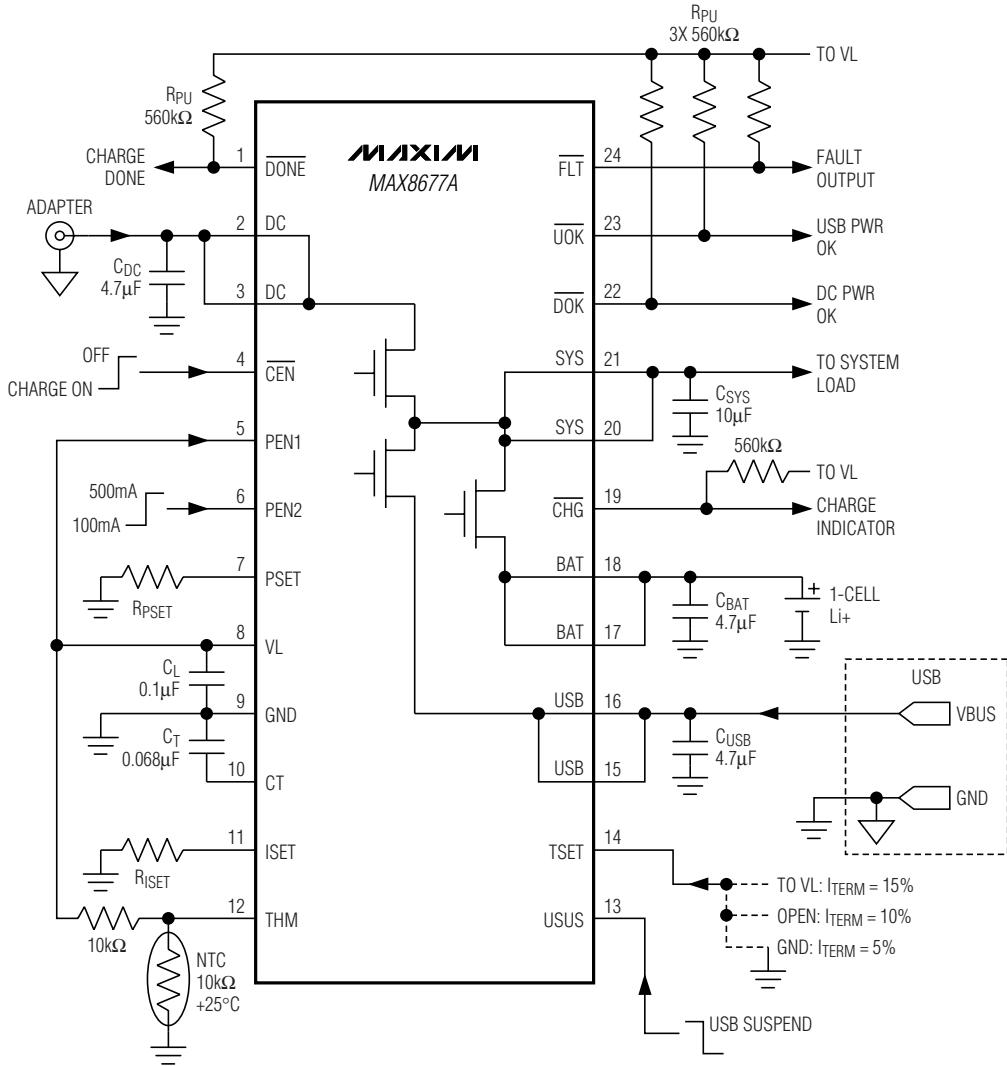
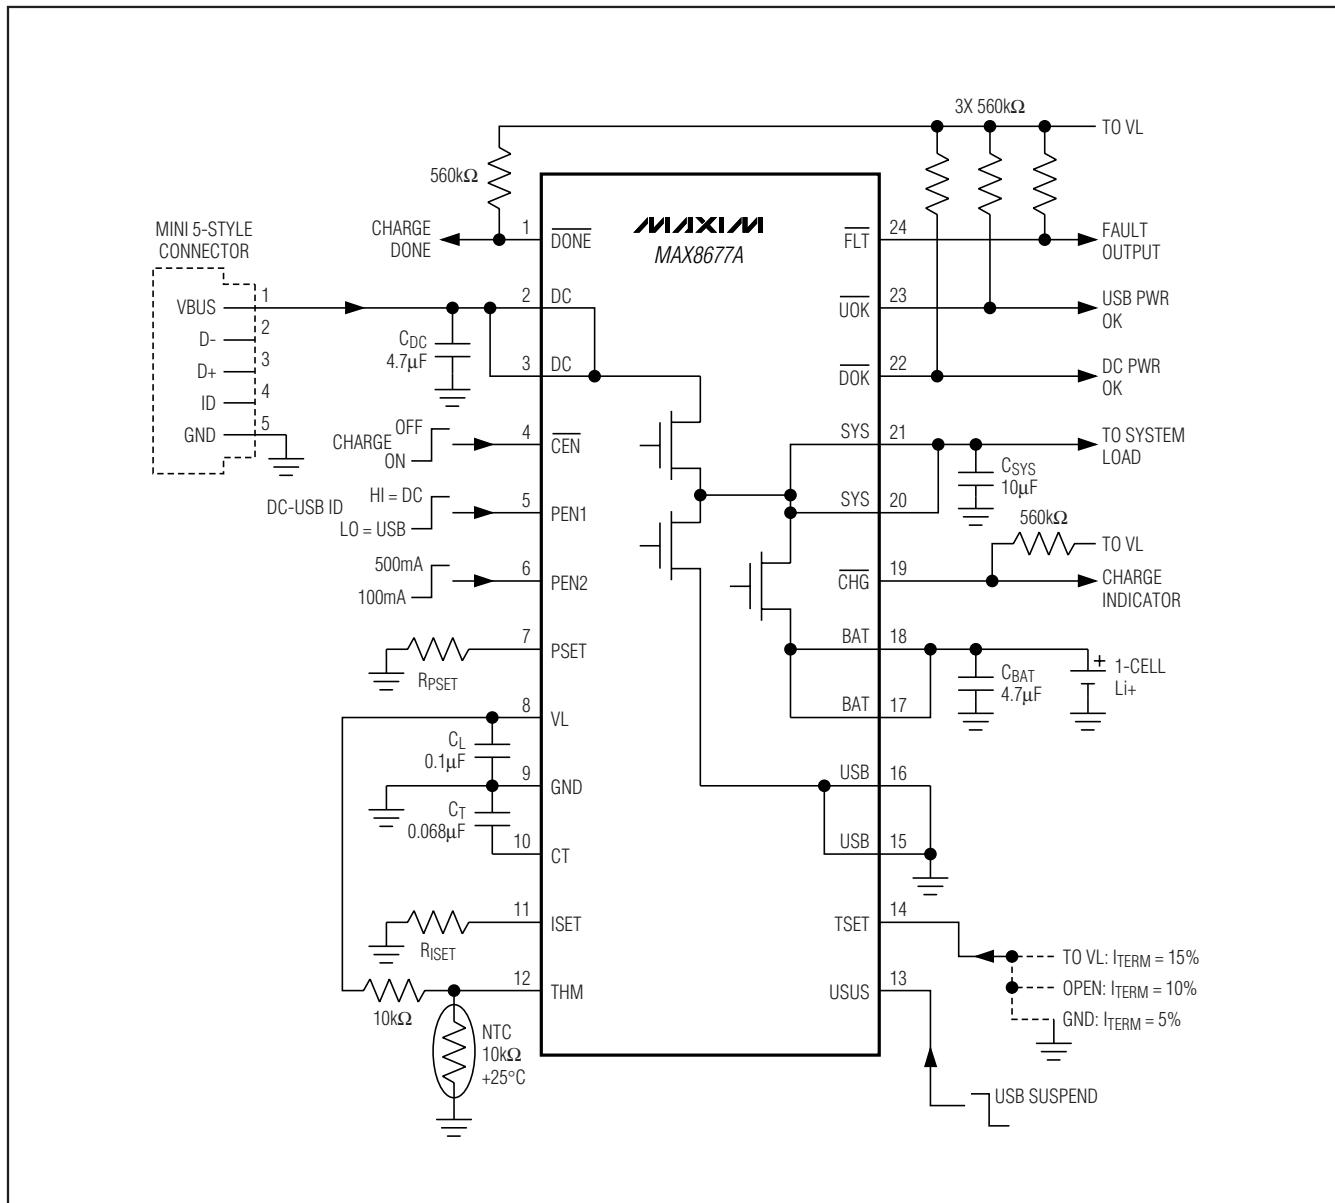

Figure 2. Typical Application Circuit Using Separate DC and USB Connectors
Figure 3. Typical Application Circuit Using Mini 5-Style Connector or Other DC/USB Common Connector
for two-input or single-input operation. Figure 2 is the typical application circuit using separate DC and USB connectors. Figure 3 is the typical application circuit using a Mini 5-style connector or other DC/USB common connector.
**Table 1. External Components List for Figures 2 and 3**
| COMPONENT (FIGURES 2, 3) | FUNCTION                                 | PART   |